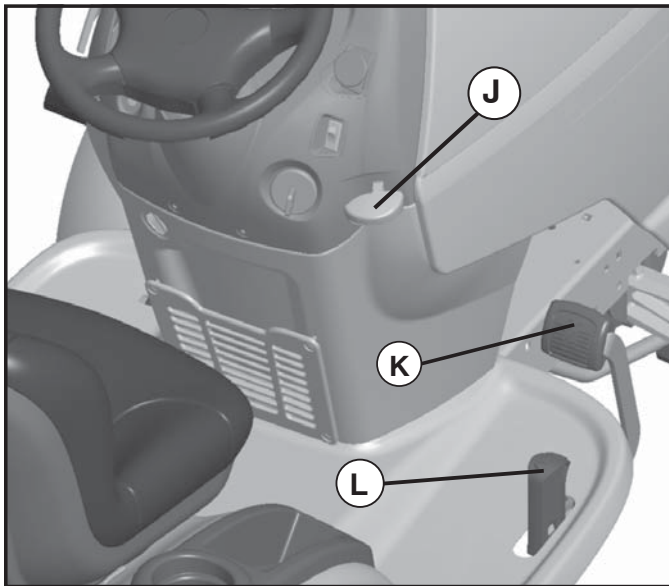

FIG. 17
TO MOVE FORWARD AND BACKWARD (N) (See Fig. 17)
TO USE CRUISE CONTROL (J) (See Fig. 17)